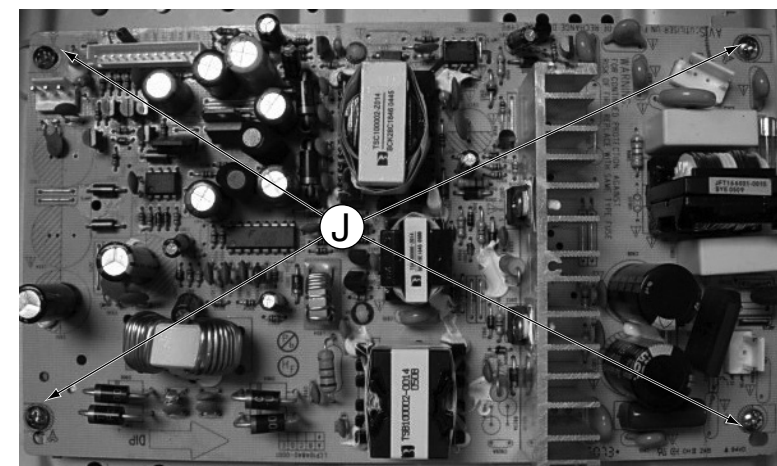

Figure 10
- 1) Loosen 4 screws 'J' to remove the Power Board figure 10.